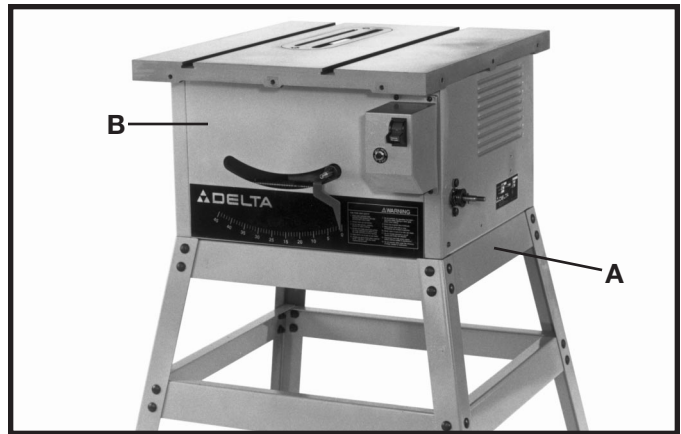

Fig. 6
3. Turn saw table face up, as shown in Fig. 6.